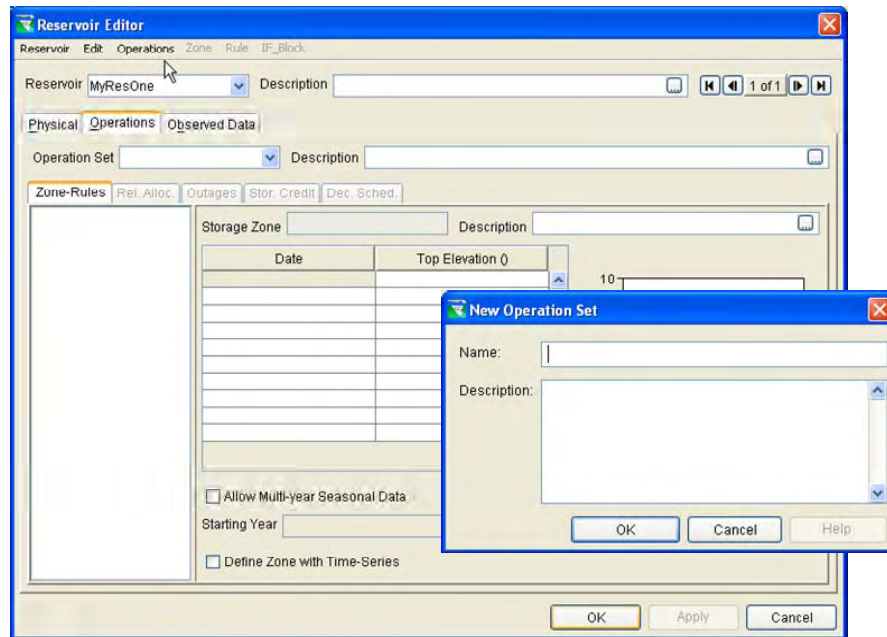

Figure 23 – New Operation Set
b. When the **Operations** tab is initially chosen, a screen similar to Figure 23 will appear. A new operation data set must be created before operations data can be entered [Section 11.2.1].
- **Create an Operation Set.** Select **New** from the **Operations** menu and give the new operation set a name (as illustrated in Figure 23). An **Operation Set** is the operation plan or scheme upon which a reservoir bases its decisions regarding how much water to release at each time step of a simulation run [Section 11.2].